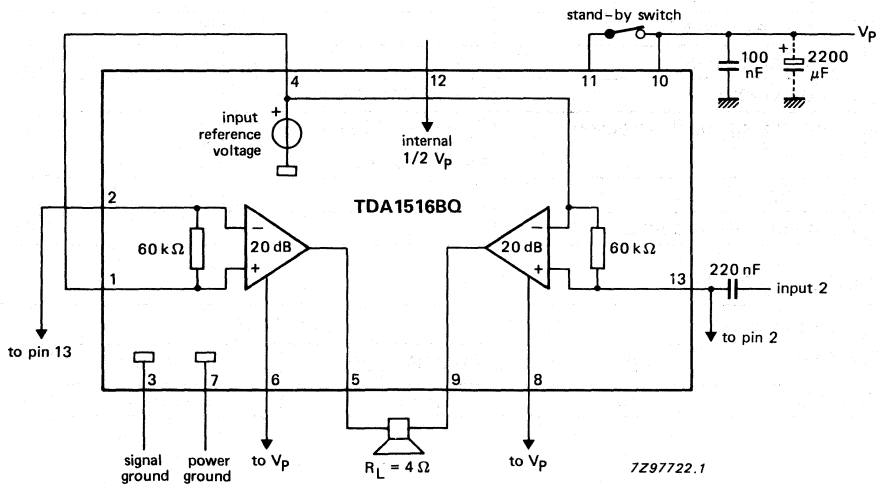

Fig. 4 BTL application circuit diagram (without bootstrapping).
- All characteristics, for BTL application are measured using the circuit shown in Fig. 4.